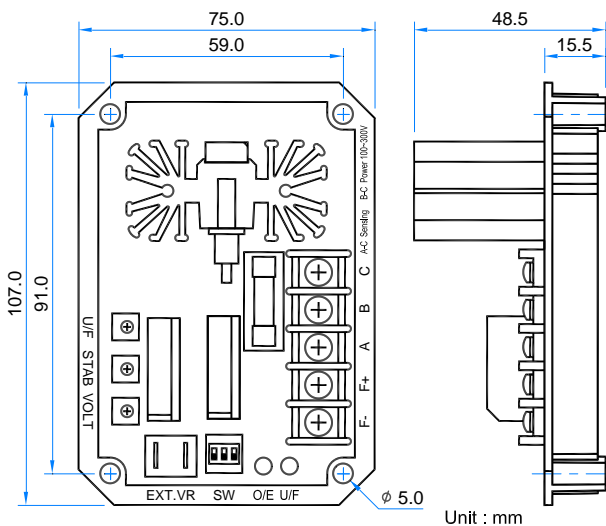

Figure 2
1. AVR can be mounted directly on the engine, genset, switchgear, control panel, or any position that will not affect operation. For dimension reference, please see Figure 2.